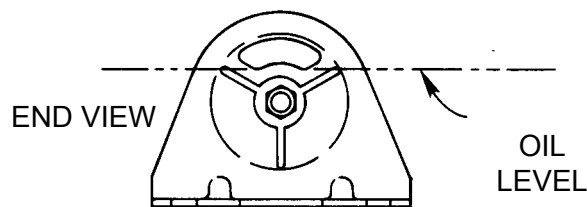

Figure 2
- **For models with Reservoir Type B:** Remove the filler cap. The fluid level should come to the bottom edge of the filler hole when the pump is level and resting horizontally on its base and the cylinders are retracted (see Figure 2).